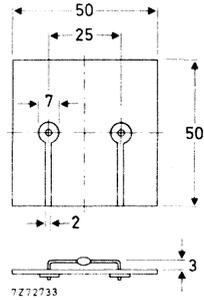

Fig. 4 Mounting method 3.
3. Thermal resistance from junction to ambient when mounted on a 1,5 mm thick epoxy-glass printed-circuit board; Cu-thickness  $\geq 40 \mu\text{m}$ ; Fig. 4